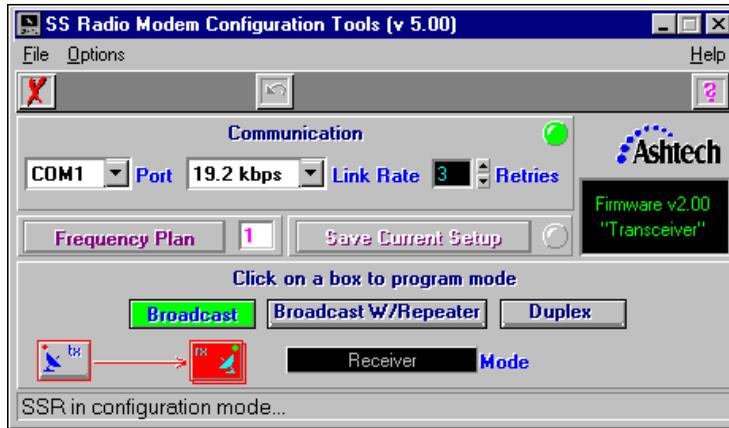

Figure 3.4: Successful SSRadio Connection
- When the software is connected to SSRadio, the display will change as shown in Figure 3.4